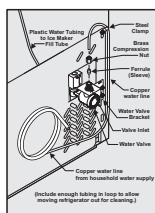

Figure 1
4. **If you use copper tubing** - Slide brass compression nut, then ferrule (sleeve) onto water supply line. Push water supply line into water valve inlet as far as it will go (1/4 inch / 6.4 mm). Slide ferrule (sleeve) into valve inlet and finger tighten compression nut onto valve. Tighten another half turn with a wrench; DO NOT over tighten. See Figure 1.